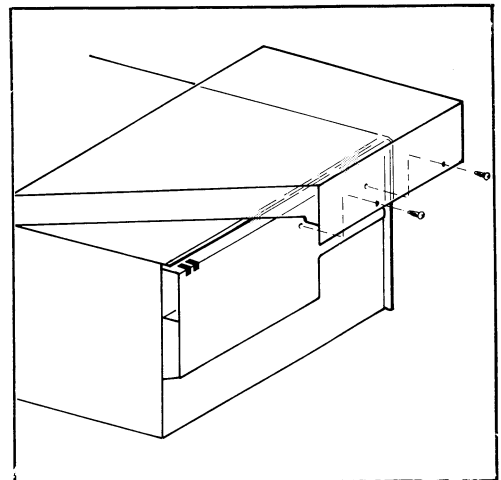

Fig. 4
2. Fit the foam rubber strips onto the lips on the under-side of the steam ventilation cowling (Fig 4). Then position this on the microwave to ensure the two holes in the cowling align with the corresponding holes in the back panel of the microwave. Secure with the two screws provided, ensuring the cowling has achieved an air-tight fit.